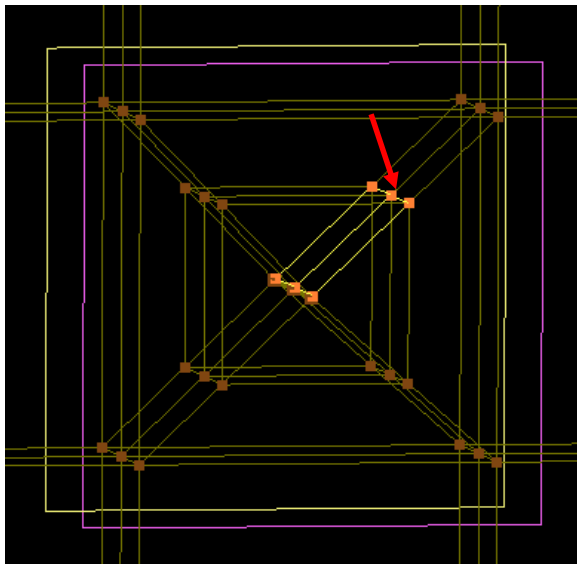

Figure 8.4
- Create an insert along the length of cylinder as shown in figure 8.4.